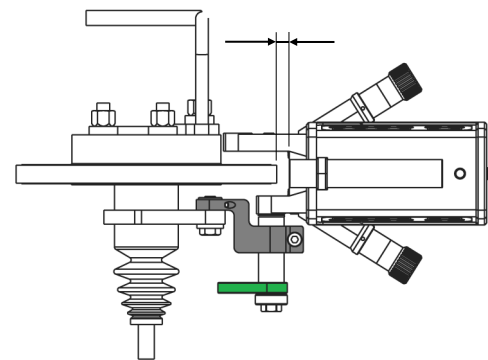

Fig. 43
1. Check the space between lathe and rotor: Keep the space between lathe and rotor short as possible, but minimal 5 mm (0.04 inch). Fig 43.
1. Bring the Lathe into correct position, Fig. 43.